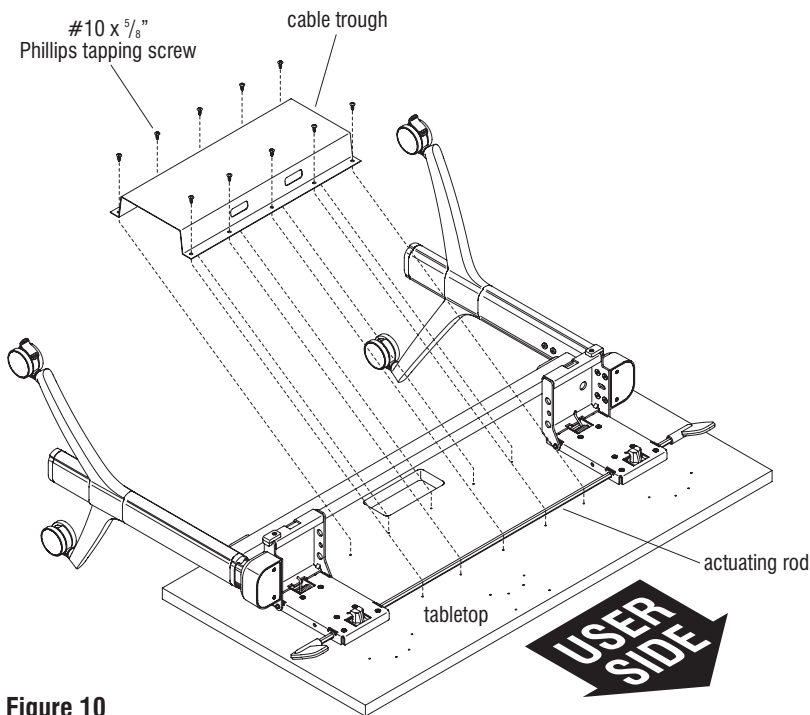

Figure 10
21. Position the cable trough over the tabletop's actuating rod as illustrated, with the two smaller rectangular openings in the trough facing the user side of the table. Align the cable trough mounting holes with the pre-drilled holes in the underside of the tabletop, and secure using ten #10 x 5/8" Phillips tapping screws. Do not over-tighten (Figure 10).